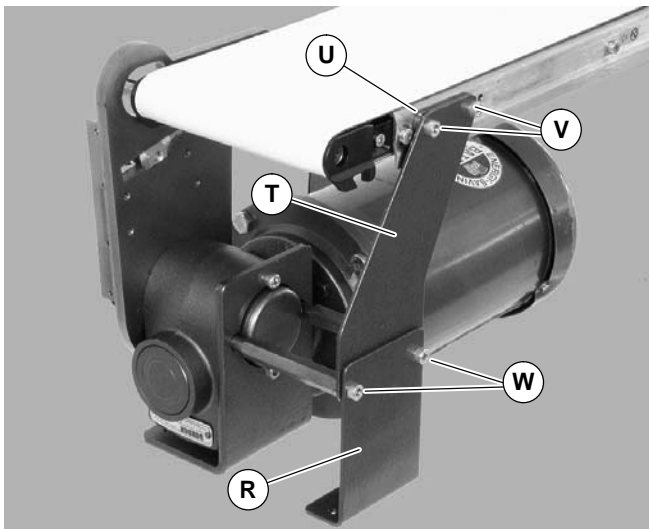

Figure 15
9. Install spacer (U of Figure 15) (2100 & 6200 Only) and gearhead/conveyor support plate (T) with screws (V). Install end support bracket (R) with screws (W). Tighten screws (V & W) to 80 in-lb (9 Nm).